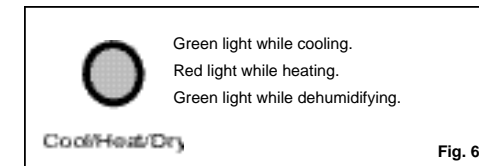

Fig. 6
**MODE Indicator Lights:** Illuminate under the different mode settings *Fig. 6;*